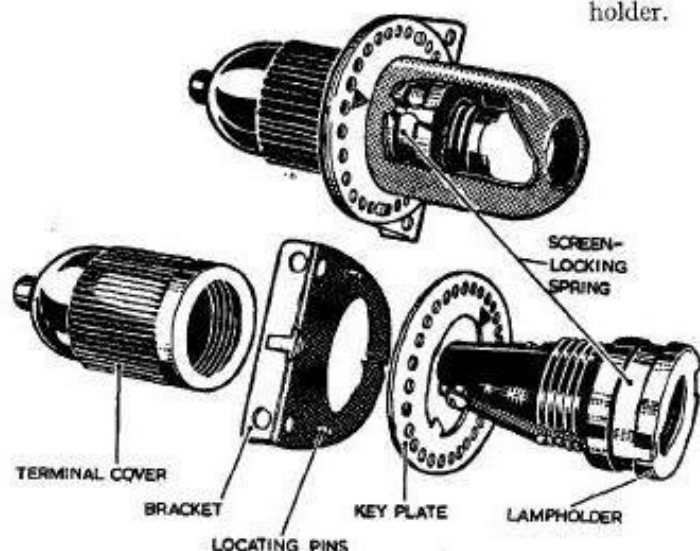

Fig. 1. Cockpit lamp, Type C, No. 2
2. The cockpit lamp, Type C, No. 2 (fig. 1) is fitted with a key plate and a special bracket with locating pins. These pins are positioned so that they engage a pair of the holes perforated around the key plate, and any variation can be effected by turning the plate.